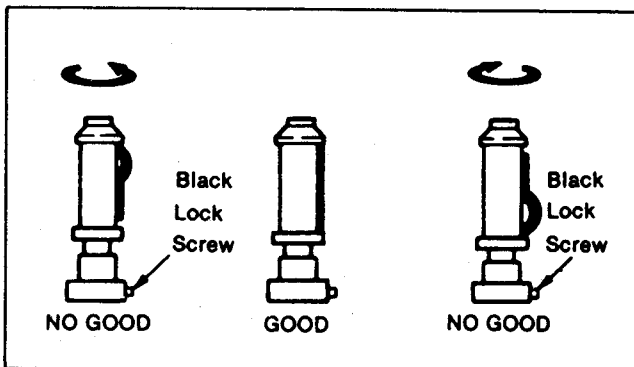

Fig. T4
- Playback a cassette tape and confirm that the tape travels without curling at upper and lower guides on posts T4, T2, S4 and S2 as shown in Fig.T4.